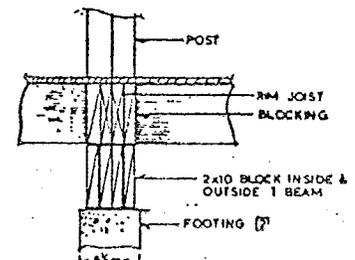

FIG. 8
Maximum spacing of the piers is 8' center to center. In local areas where soil conditions will not support 1500 PSF soil bearing pressures, the 8' distance between piers must be reduced. See figure 8 for recommended pier block locations for your home.
4. Complete installation of pier blocks at the remaining locations specified on the pier block diagrams, Fig. 8
5. Install pier blocks and level the heavy half of the doublewide unit. Blocking should be accomplished similar to the singlewide method except that the inside axle area blocking should be initiated first. See Fig 8 for blocking.
1. Install piers and/or footings. See figure 8